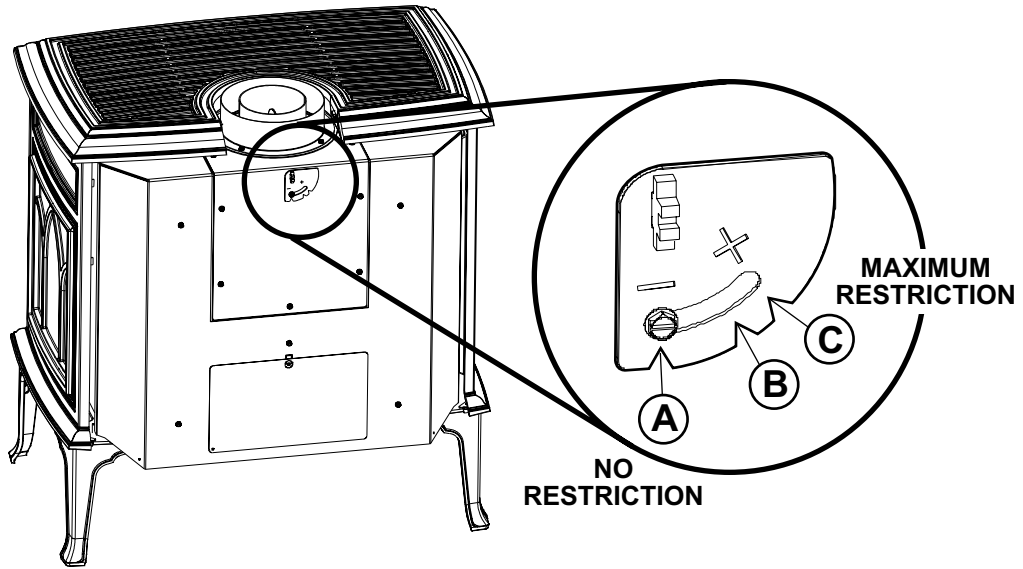

Figure 4.8. Use 1/4" socket driver to loosen the Exhaust Restrictor dial and adjust to the appropriate notch for your termination zone.
The Exhaust Restrictor is an adjustable plate located within the firebox exhaust outlet. It is adjusted by rotating the dial at the back of the stove within a range from the factory-set, fully open (no restriction) position to a fully restricted position. See Fig.4.8. The Plus (+) and Minus (-) signs on the dial relate to degrees of restriction, from zero to approximately 70%. The three lettered positions correlate to the termination zones (A,B,C) diagrammed in figure 15. Use the diagram to determine the degree of restriction and shutter setting you should use.
3. Locate the restrictor adjustment dial on the top of the exhaust outlet. Use a 1/4" nut driver to loosen the lock nut and pivot the dial to the position appropriate to your termination zone. See figs. 4.8 and 4.9.